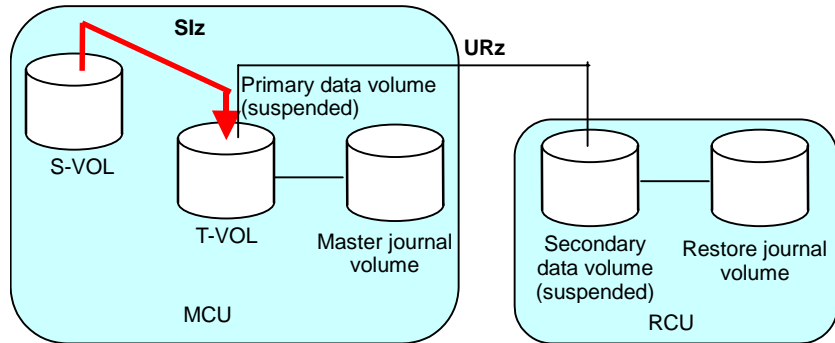

Figure 3-18 Restoring a Siz S-VOL - Step 7
7. Execute the Business Continuity Manager **YKMAKE** command on the Slz pair to perform copying in the original direction (see Figure 3-18).